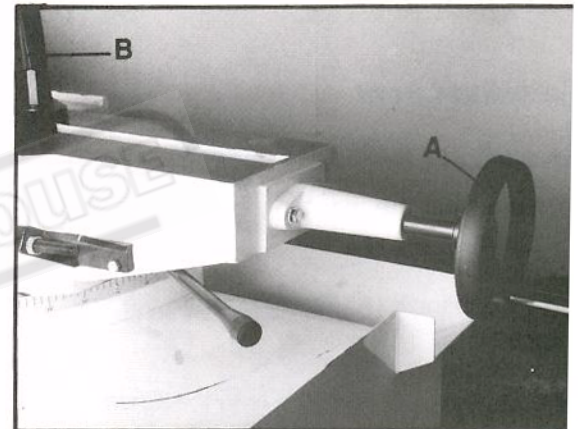

Fig. 15
1. Turn vise handwheel (A, Fig. 15) 1/2 turn counter-clockwise.
2. Move vise (B, Fig. 15) to desired location by sliding along bed.